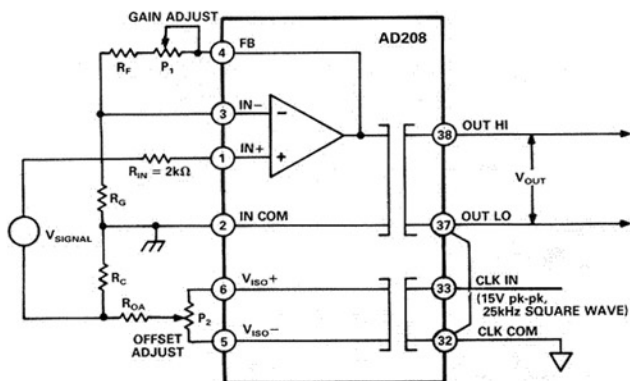

Figure 34. Input Adjustment Circuit for the Noninverting Mode of Operation
Offset Adjustment. Figure 34 shows the suggested input adjustment connections when the isolator's input amplifier is configured for the noninverting mode of operation. The offset adjustment circuit injects a small voltage in series with the low side of the signal source. The adjustment potentiometer P_2 is responsible for nulling out the offset voltage. A 100 k Ω P_2 , 50 k Ω R_{OA} and a 100 Ω R_C should provide an offset adjustment range (Referred to Input) of about ± 15 mV. Since the offset is zeroed out ahead of the gain, the values given above for P_2 , R_{OA} and R_C should work for any gain on the isolator.
- To minimize CMR degradation it is recommended that the resistor R_C (shown in Figure 34) be below a few hundred ohms.
- The offset adjustment circuit of Figure 34 will not work if the signal source has another current path to input common, or if current flows in the signal source LO lead. If this is the case, use the output adjustment procedure.
Gain Adjustment. Figure 34 also shows the suggested gain adjustment circuit. Note that the gain adjustment potentiometer P_1 is incorporated into the gain-setting resistor network at the isolator's input.